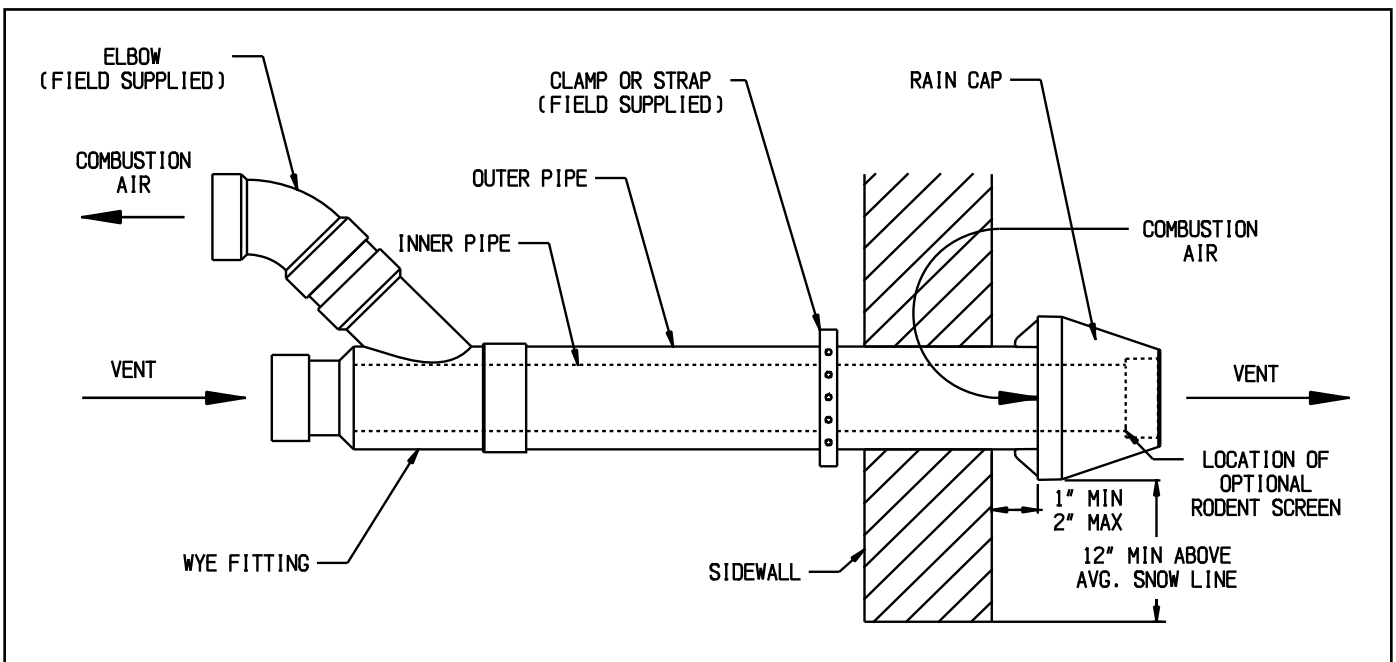
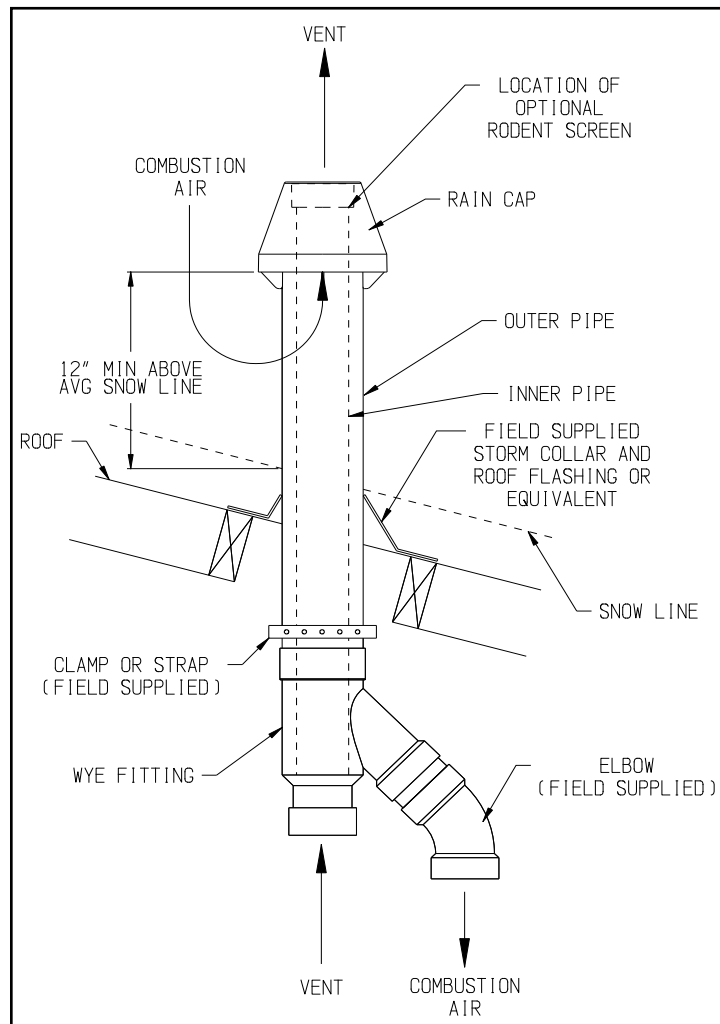

Figure 7.33: Installation of IPEX and DiversiTech Concentric Terminal through Sidewall
Figure 7.34: Installation of IPEX and DiversiTech Concentric Terminal Through Roof
8. Installation of IPEX FGV or DiversiTech CVENT Concentric Vent Terminal (Terminal Options D,E,I & J) - This terminal may be used for either horizontal or vertical venting. See Figure 7.33 for horizontal installation or Figure 7.34 for vertical installation. When PVC is used for venting the 30” CPVC straight section and CPVC elbow supplied must be used prior to connection of the vent system to this terminal. If the vent system is too short to permit this, use the IPEX FGV CPVC terminal: